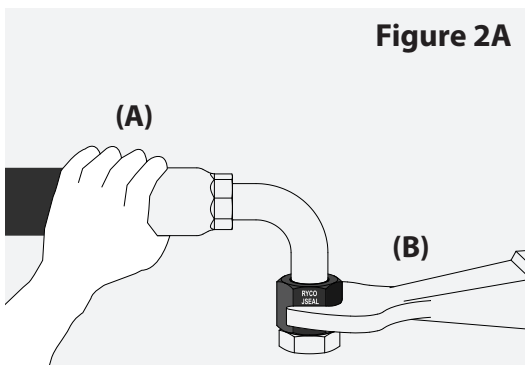

Figure 2A
2. Using your hand (A), firmly restrain the coupling body (as shown in Figure 2A) to prevent it from rotating.
3. While holding coupling in position by hand (A), engage torque wrench (B) and tighten the black JSEAL™ nut to the corresponding assembly torque value listed in Table 1 herein.